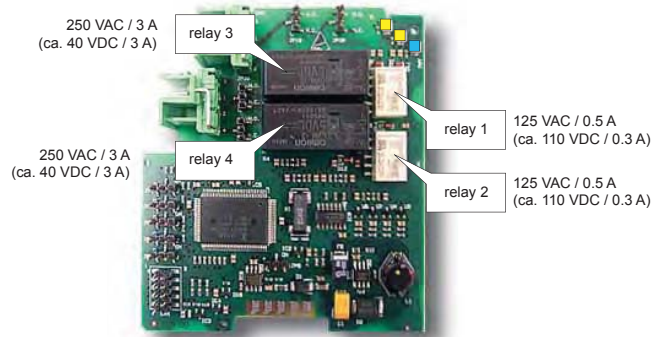

FIGURE 6-22
- **For this special configuration, only relay 3 and relay 4 are used.** For their locations, see FIGURE 6-22.